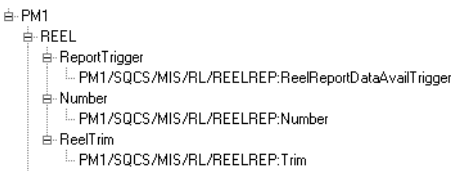

Figure 216. Mandatory Signals for Reel Turn-up Completed
- 3. Repeat this procedure to specify the OPC tag for the REEL Number counter and ReelTrim. An example completed specification is shown in Figure 216.